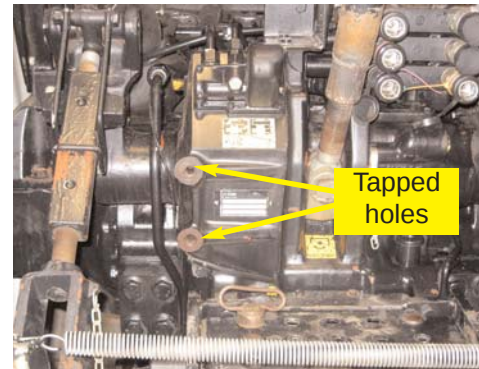

Figure 2a. Mounting location.
- a. Locate the two tapped holes in the rear housing by the three point top link. (Figure 2a.)